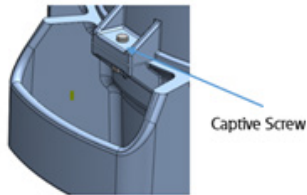

FIGURE 1
2. To gain access to the driver compartment, separate the luminaire from the top hat by loosening the 1/4-20 slotted head captive screw (See Figure 1).